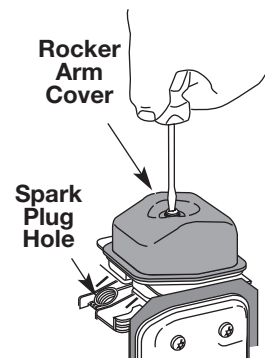

Fig. 32
5. Clean dirt from around the rocker arm cover. Remove the screw holding the rocker arm cover with a large flat blade screwdriver or Torx T-25 bit (Fig. 32). Remove the rocker arm cover and gasket.